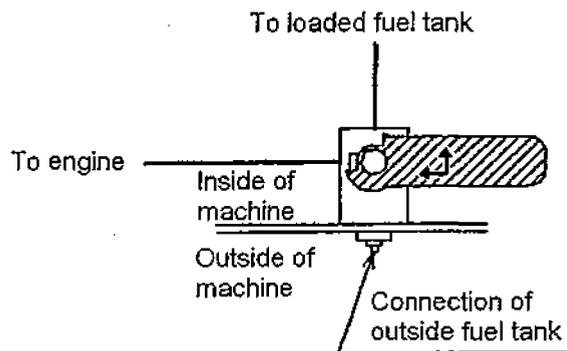

Fig.1 Use of loaded fuel tank
(2) Operating procedure
- ① The fuel piping and the change-over valve lever are set as shown in Fig.1 before the machine is shipped. If the fuel is to be supplied from the machine loaded tank, operate the machine with setting left as such.
- ③ If the outside machine tank is not used with the piping removed from it, be sure to return the change-over valve lever to the position as shown in Fig.1 and screw in the two plugs.
(3) Precaution in piping and operation
- ① For the piping, use an oil resistant pipe with an inside diameter of approximately 8 to 10 mm.
- ② Install the outside machine tank as near to the machine as possible and as the fuel level is within from 0 to +3m for the ground.
- ③ In piping the outside machine tank, leave the position of the change-over valve lever as shown in Fig.1 until the piping is complete before turning it to the position as shown in Fig.2 .